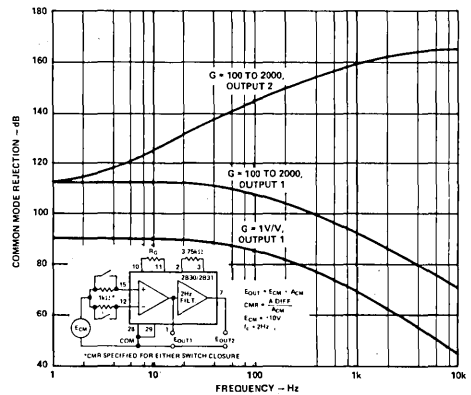

Figure 12. Common Mode Rejection vs. Frequency and Gain
**Common Mode Rejection:** CMR is rated at  $\pm 10\text{V}$  CMV and  $1\text{k}\Omega$  source imbalance. The CMR improves with increasing gain. As a function of frequency, the CMR performance is enhanced by the incorporation of low pass filtering, adding to the 90dB minimum rejection ratio of the instrumentation amplifier. The effective CMR at 60Hz at the output of the filter ( $f_c = 2\text{Hz}$ ) is 140dB min. Figure 12 illustrates a typical CMR vs. Frequency and Gain.